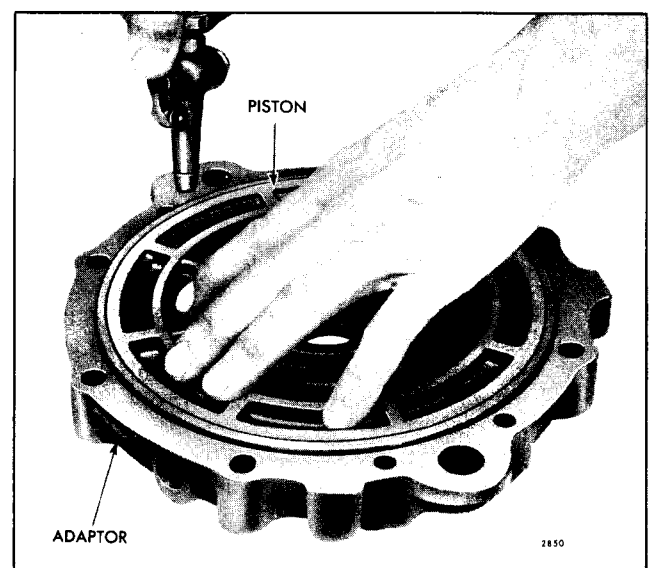

Fig. 22 · Removing Reverse Clutch Piston from Gear Housing Adaptor
- b. Place the nozzle of an air hose in the small oil hole at the top of the adaptor, then apply light air pressure behind the reverse clutch piston and force the piston up out of the adaptor as shown in Fig. 22.